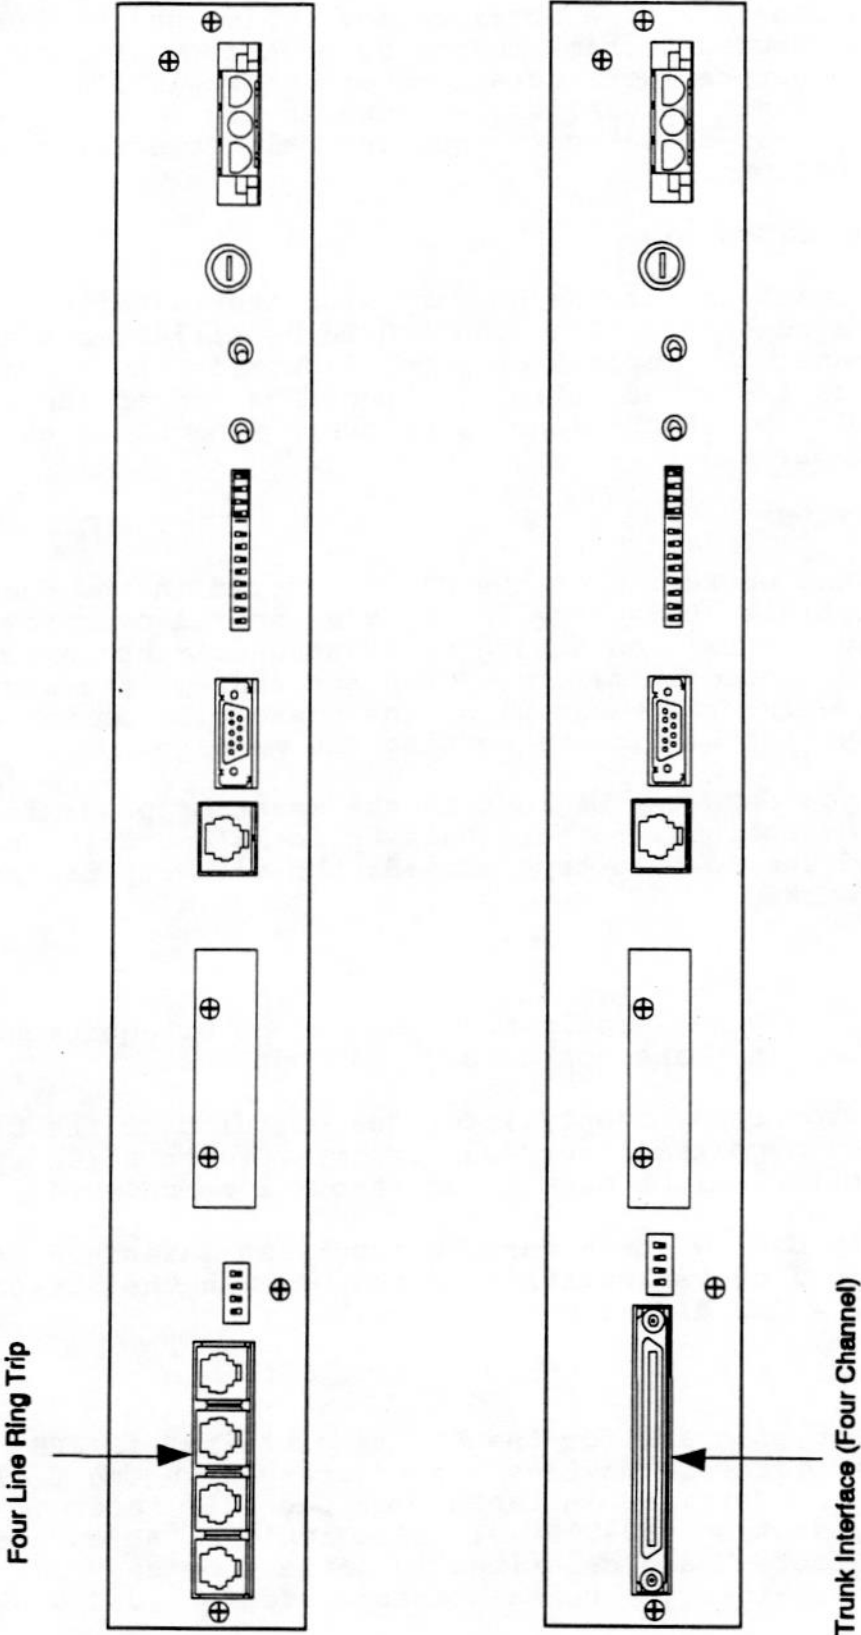
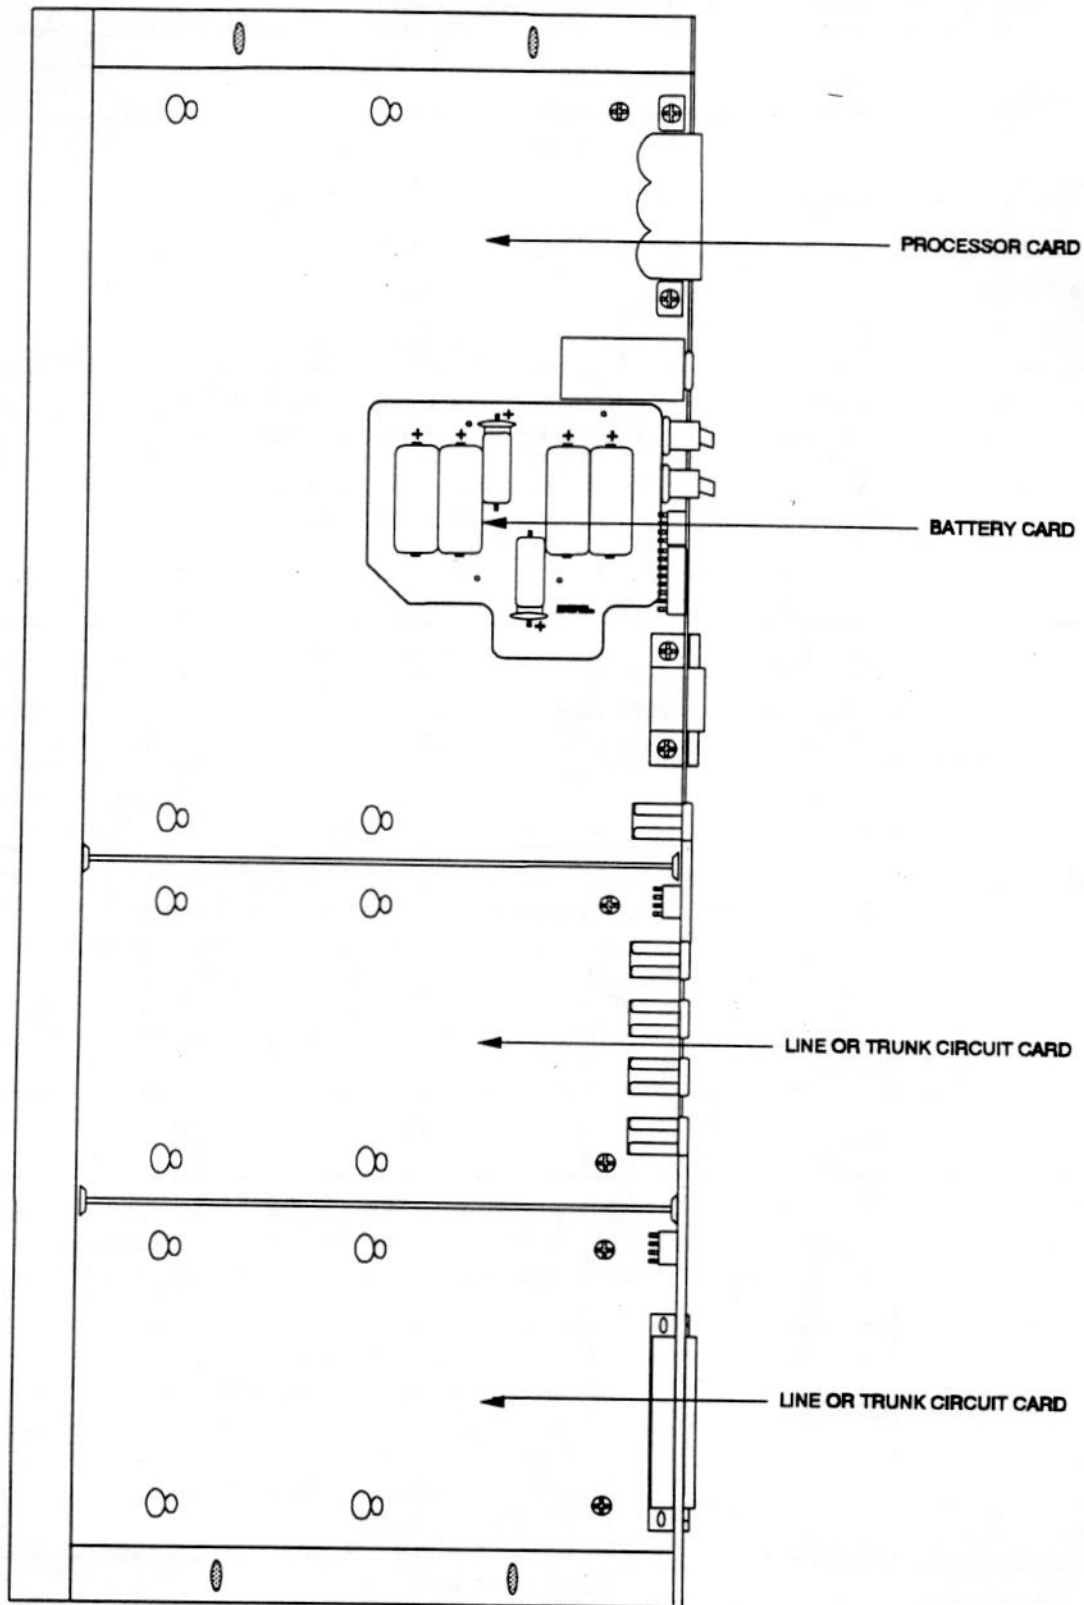

Fig. 1 - Digital Announcer Configurations
Fig. 2 - Location of Major Digital Annunciator Components
3.01 The DA consists of a metal cabinet which can be used as is, or may be adapted to rack mounts by a variety of side brackets kits. Digital Announcer configurations are shown in figure 1 on page 10. Location of major assemblies is shown in figure 2 on page 11. The DA IS completely self-contained, requiring only external power, audio Mwd signal connections.